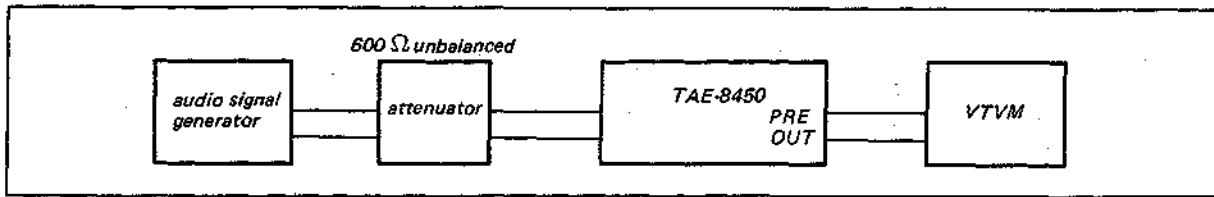

Fig. 3-4. Presence switch check/phono sensitivity check/peak program meter adjustment setup
2. Connect the equipment as shown in Fig. 3-4.
1. Connect the equipment as shown in Fig. 3-4.
3. Connect the equipment as shown in Fig. 3-4.